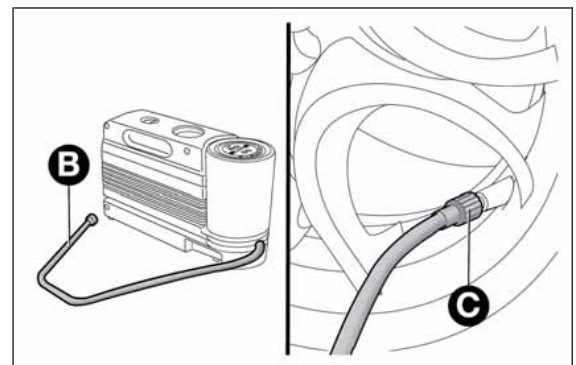

fig. 127
- engage the handbrake, unscrew the tyre valve cap, take out the flexible filler pipe A fig. 127 and tighten the ring nut B on the tyre valve;